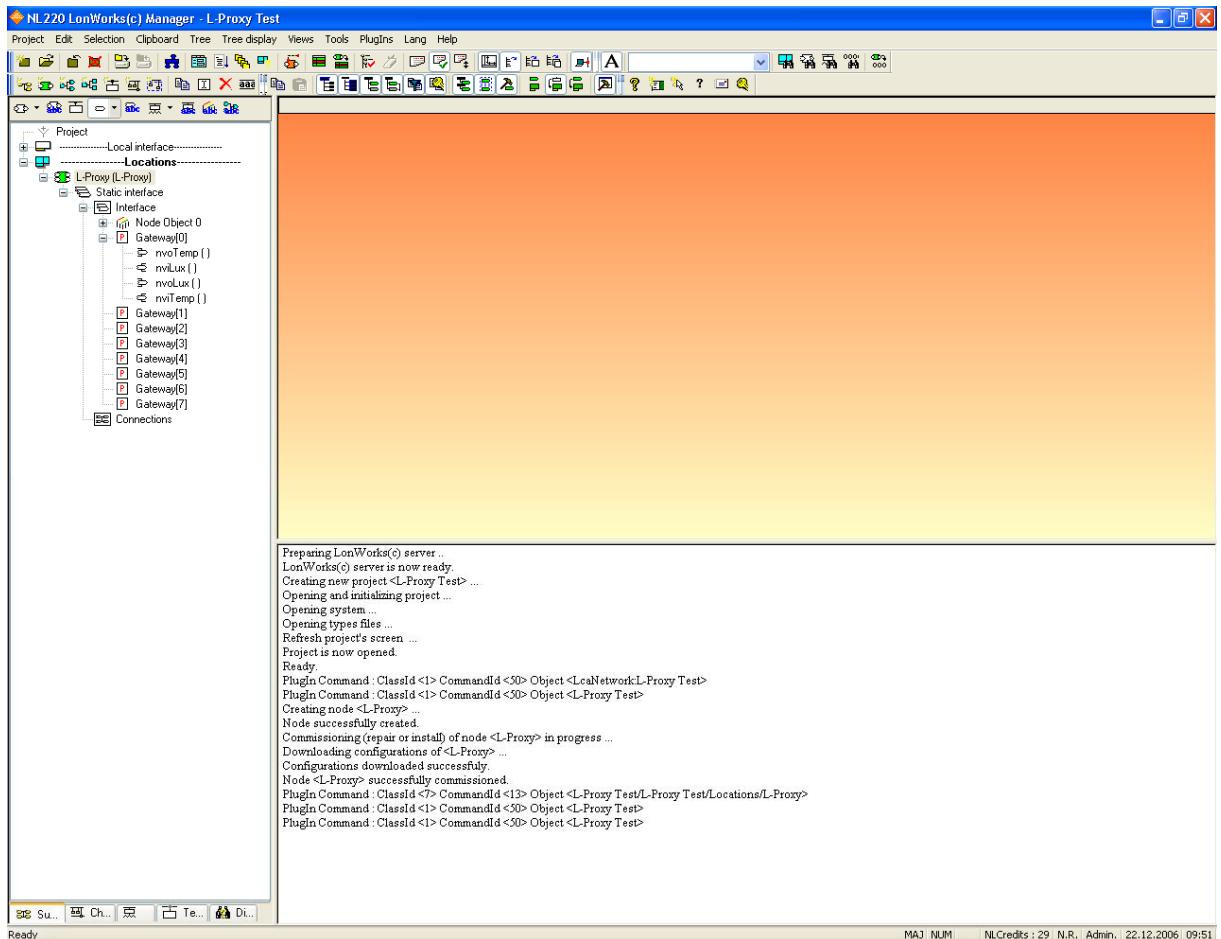

Figure 92: L-Proxy device in NL-220.
- Right-click on the device in the device tree as shown in Figure 92 and select **Network → Replace**. Alternatively, the device can be selected and the device replacement can be started by pressing ‘Ctrl+I’.